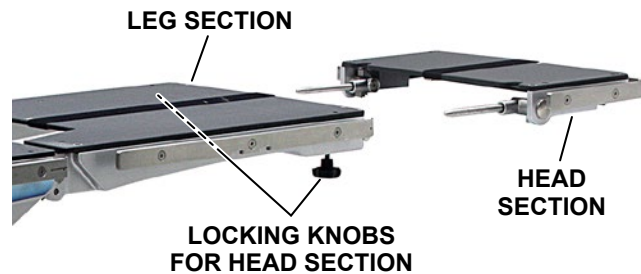

Figure 24. Head Section as a Foot Extension
If desired, the head section may be removed by loosening the locking knobs and pulling it straight out of the back section (Figure 24).
Two (2) locking knobs are located inside the leg section to secure the head section (Refer to Figure 24).